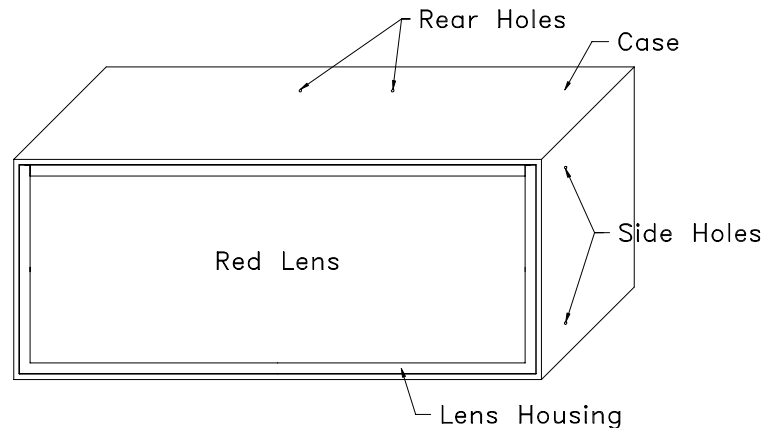

Figure 5 - Hole Locations
2. Thread four #8 self-tapping screws into the four side holes in the case using the hex driver (see Figure 5). Under the surface, the holes are much larger, and should thread easily once the screws are started. Once the screws have started, thread them down approximately three turns.